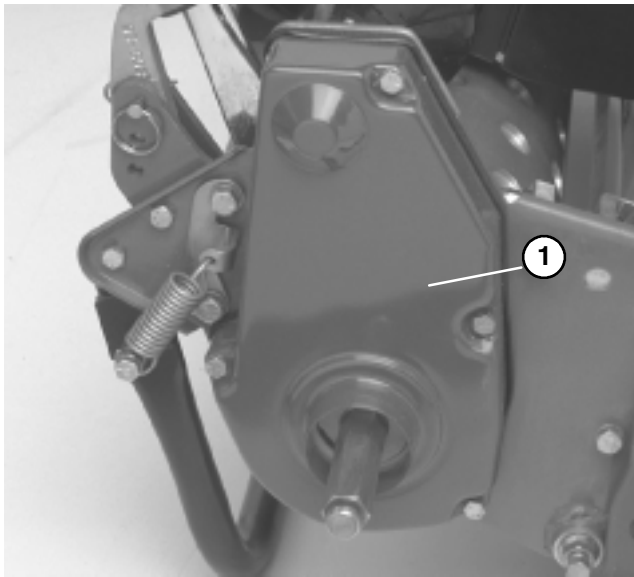

Figure 7
5. Remove rear belt cover from right side of machine (Fig. 7) .